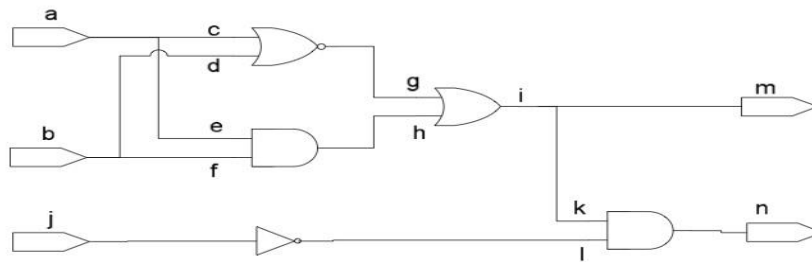

Figure 2
5. Show that the two faults **c** (stuck-at-0) and **f** (stuck-at-1) are equivalent in the circuit of Figure 2.